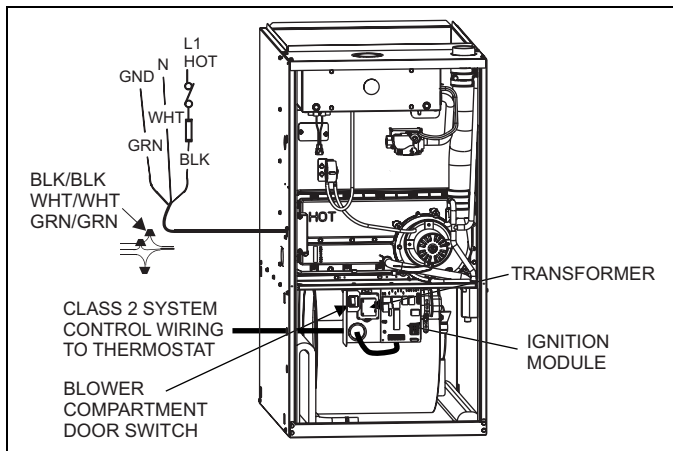

FIGURE 8: Electrical Wiring
Some utility companies or local codes require pipe sizes larger than the minimum sizes listed in these instructions and in the codes. The furnace rating plate and the instructions in this section specify the type of gas approved for this furnace - only use those approved gases. The installation of a drip leg and ground union is required. Refer to Figure 8.
1. Shut off gas supply at valve upstream from furnace or at meter as required. Refer to Figure 8.